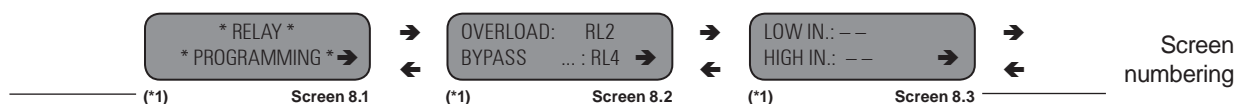
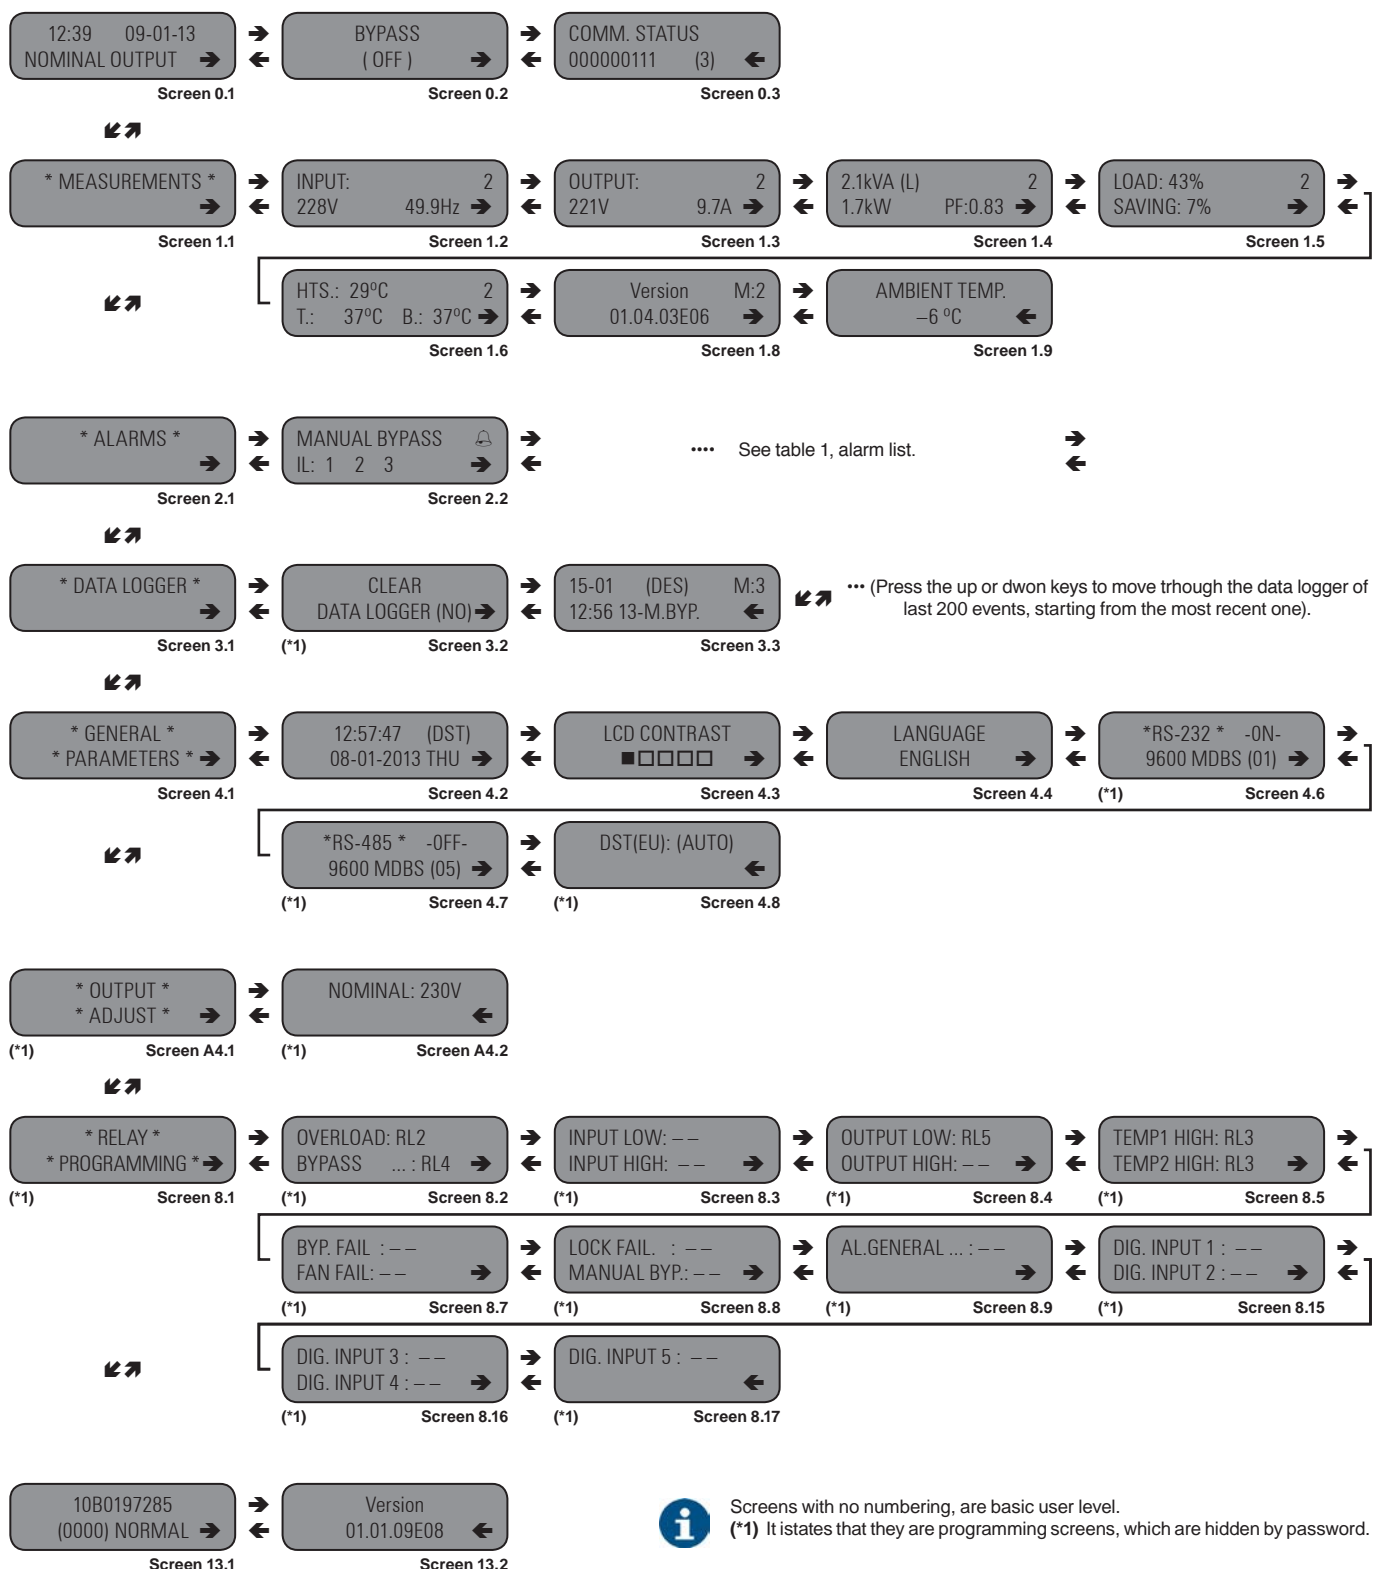

Fig. 2. Reference notes of the screens.
Fig. 3. Screen map of LCD panel synoptic.
- Notes related to the screens of figure 3 and represented to figure 2, as an example:
Figure 2 is showing just only one alarm as an example, but there could be some of them, the active ones and ordered by appearance order. In table 1, there are all the possible alarms displayed in the LCD panel.
To access for restricted settings or data changing (screens with reference (*1) stated below of themselves in figure 3), enter the access «Password» (0500).